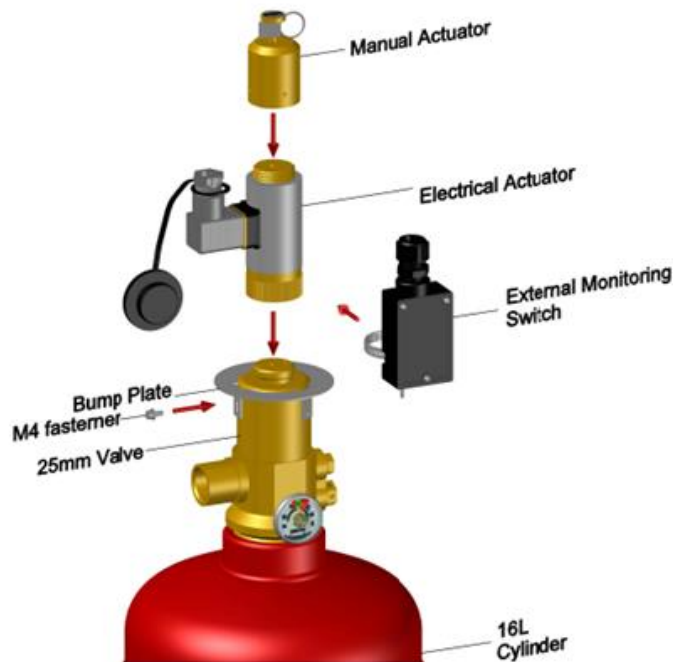

Figure 47 Attached Steel Plate onto the Cylinder Valve
- Screw in the M4 fastener to attach the steel plate to the cylinder valve. (See Figure 47)